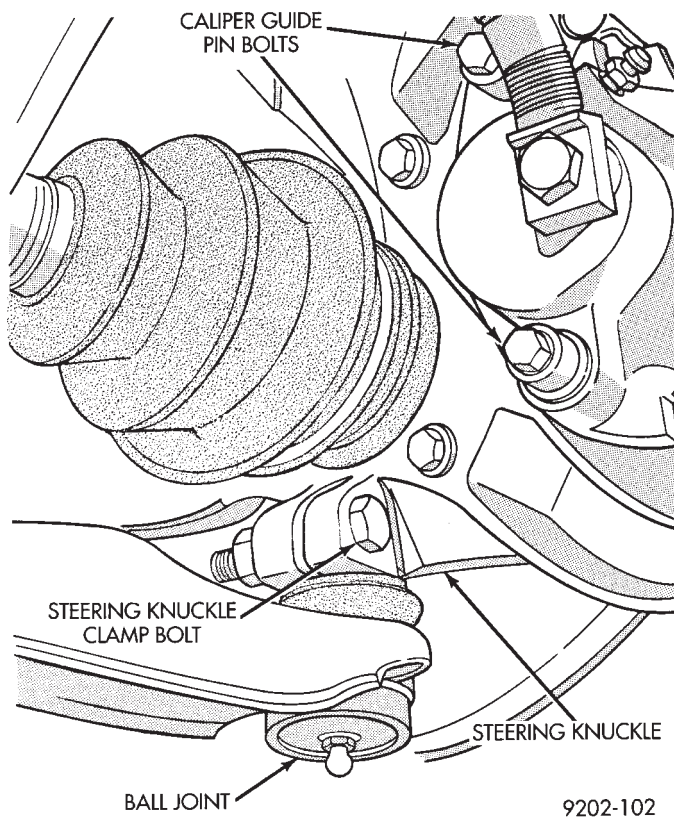

Fig. 6 Remove Clamp Bolt and Caliper Guide Pins
(7) Remove clamp bolt securing the ball joint stud into the steering knuckle (Fig. 6).
(8) Remove caliper guide pin bolts (Fig. 6) and separate caliper assembly from braking disc. **Support**